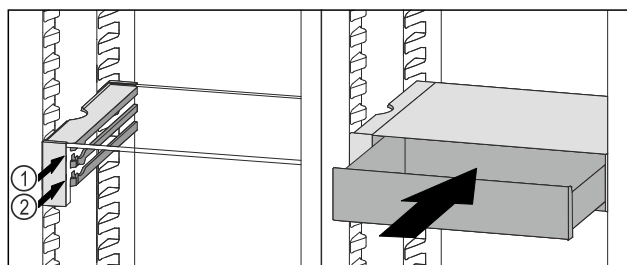

Fig. 168
- Place the VarioSafe drawer behind the stoppers on desired rib Fig. 168 (1) or Fig. 168 (2).